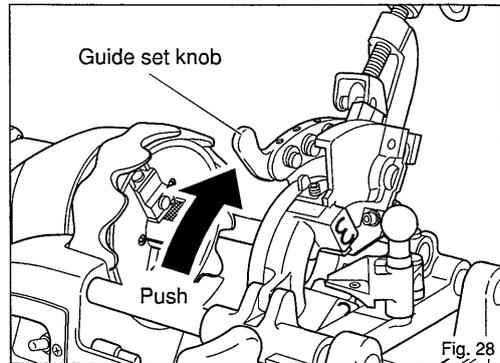

Fig. 28
- (1) Push up the guide set knob and align the die head to the proper position. Check to make sure that the unit is set to the desired size. (Fig. 28)